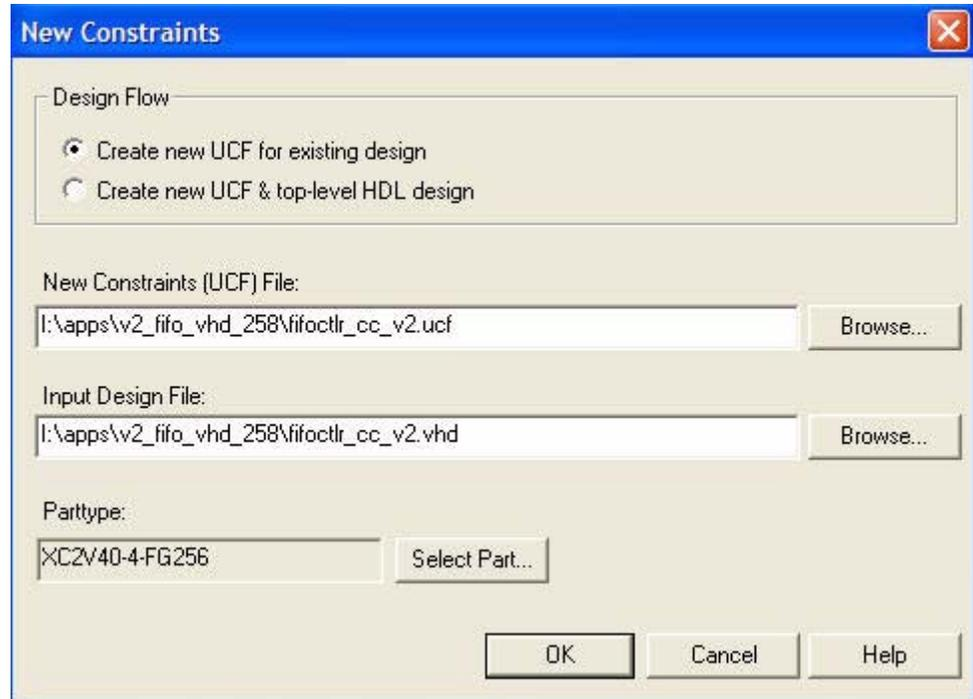

Figure 2: The New Constraints dialog box
2. Open the HDL file in PACE (Existing HDL (File -> New) file option). If you are launching PACE from Project Navigator, this step is automatically done for you. Figure 2 shows the New Constraints dialog.